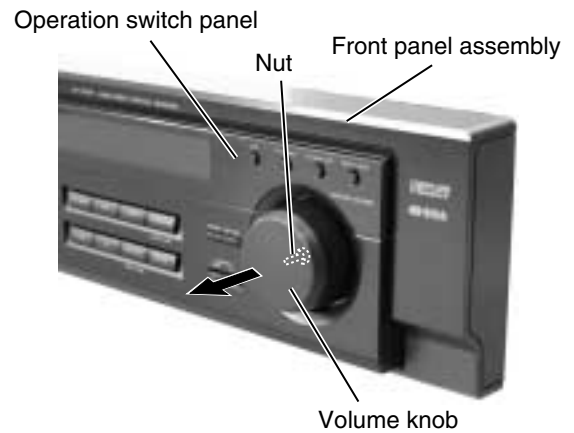

Fig.16
■ Removing the system control board / power switch board (See Fig.16 to 18)